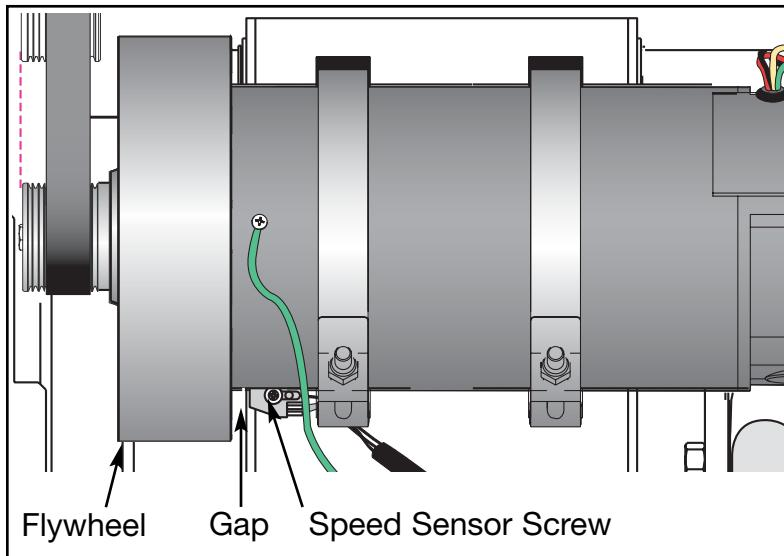

Figure 3
- A.** Turn the main power switch on the left side to the off (O) position.
- A.** Using a Phillips head screwdriver, loosen the screw that attaches the speed sensor to the motor saddle. See Figure 3 (speed sensor screw).
- B.** Adjust the gap between the speed sensor and the flywheel to 3/16" (.48 cm) and tighten the screw. See Figure 3.